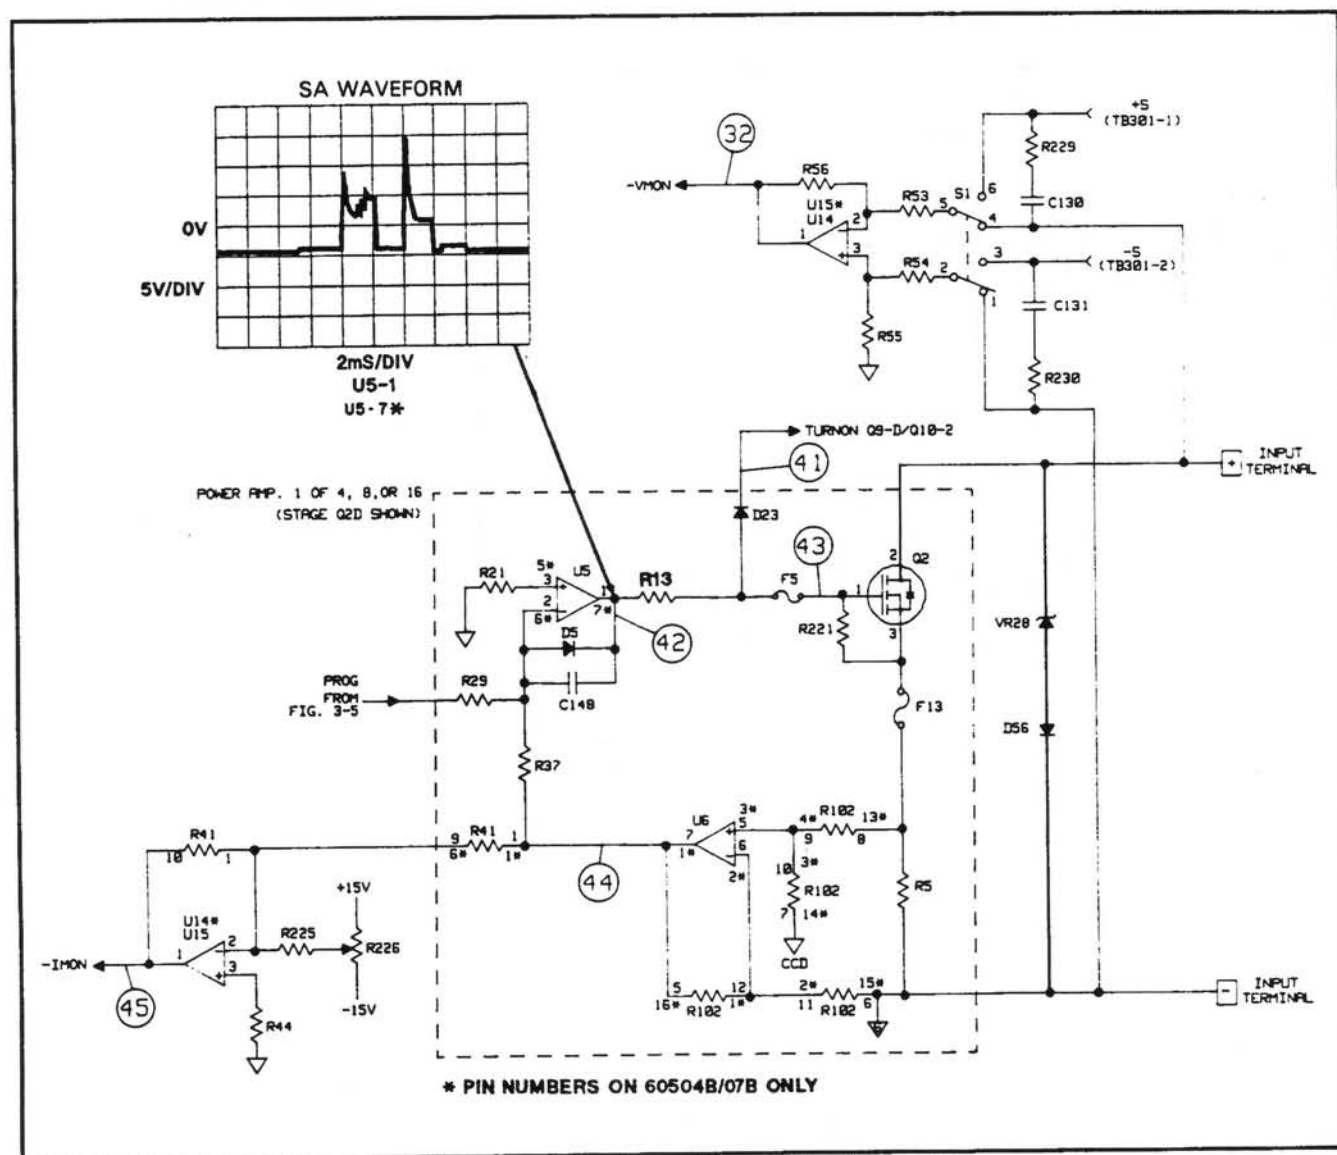

Figure 3-6. Input Power Stages Troubleshooting
INPUT POWER STAGES TROUBLESHOOTING (Figure 3-6)
There are four, eight or sixteen identical input power stages (depending on the module) connected in parallel. Figure 3-6 shows one, which consists primarily of a power FET (in quad array Q2), a monitor amplifier (U6) and an error amplifier (U5). Schematic details are shown in the corresponding module Power Board schematics.
To troubleshoot the input power circuits, place the Electronic Load in the SA mode by connecting the jumpers in test headers TP201 and TP301 in the SA mode positions (see Figure 3-2). The waveform shown in Figure 3-6 at the output of the error amplifier can only be generated in the SA mode. Check that this waveform appears at the output of the error amplifier in each input power stage. Refer to the Power Board
If the problem is isolated to a specific stage, turn the SA mode off (remove jumpers) and check the test points (41) through (44) that correspond with applicable circuit points in the defective stage. Use the measurement conditions specified in Table 3-3. Also, check the applicable fuses in the specific stage. As shown in Figure 3-6, fuses F5 and F13 are used by stage Q2D.